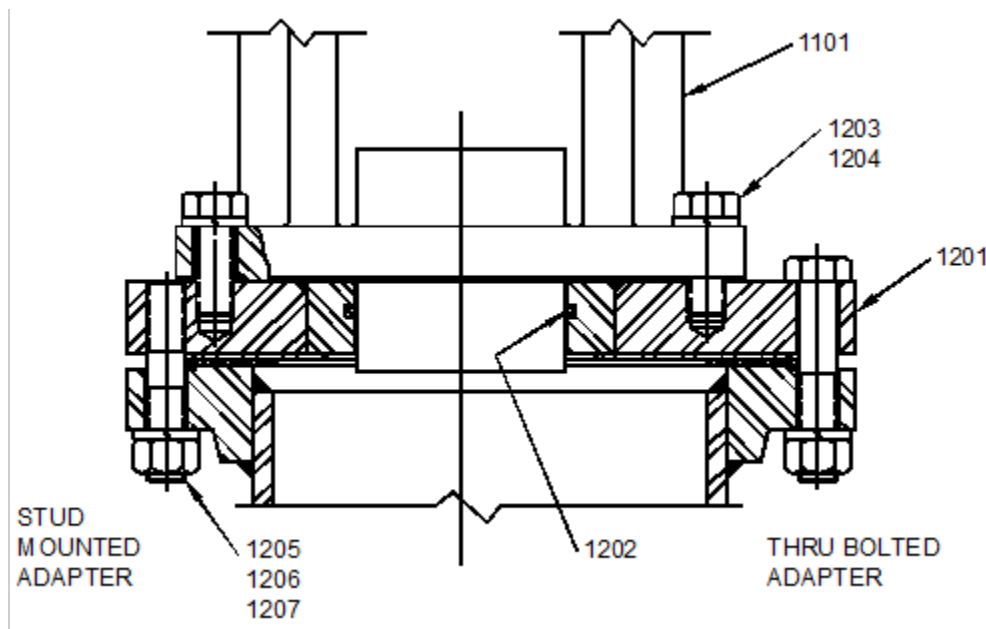

Figure 5: Adapter Flange Mounting
2. If an adapter flange [1201] has been included with your unit, lubricate and insert o-ring [1202] into machined groove on inner diameter of flange. Assemble pedestal [1101] to adapter flange using bolts [1203] and lockwashers [1204]. Lubricate and install bolts and torque to the value shown in Table 9: Bolt Tightening Torque, page 21. Install pedestal/adapter flange assembly onto vessel nozzle with a customer supplied gasket and fastener set. The 1QED and 2QED 8"-150# adapter flange and the 3QED 10"-150# adapter flange require stud mounting to the vessel nozzle. Use the supplied studs [1205], lockwashers [1206], and hex nuts [1207]. Reference Figure 5.